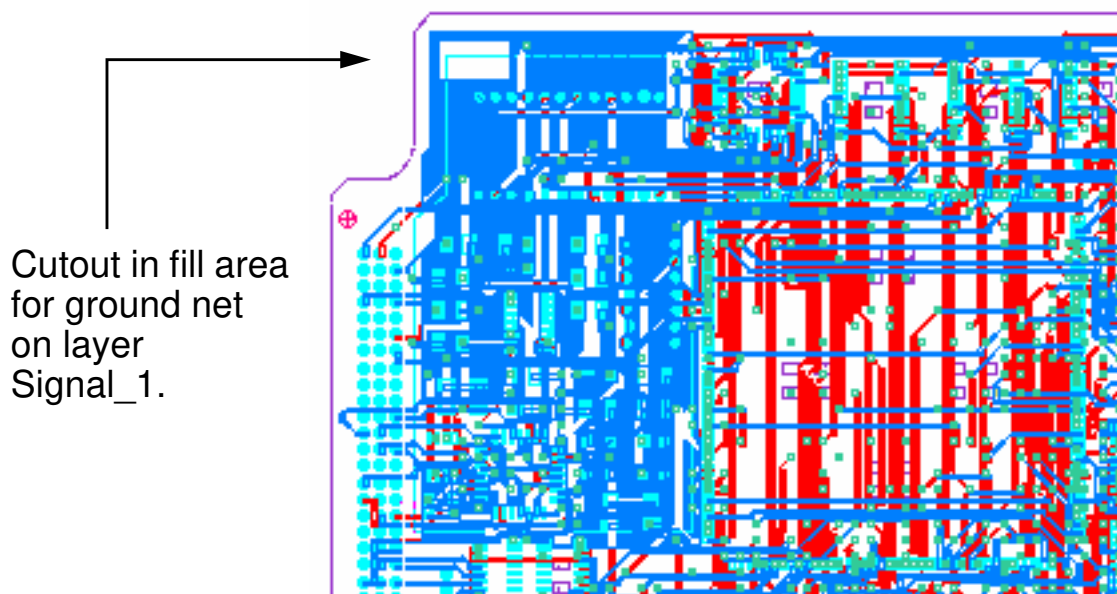

Figure 4-7. Adding a Cutout in a Fill Area
3. Using the Select mouse button, click on the vertices of a polygon that identifies a small area to cut out within the area fill. Use the cutout shown in Figure 4-7 as a guide. **OK** the prompt bar.
3. When you finish, delete all but the first fill area and cutout you generated in the analog section of the board, as shown in Figure 4-7.